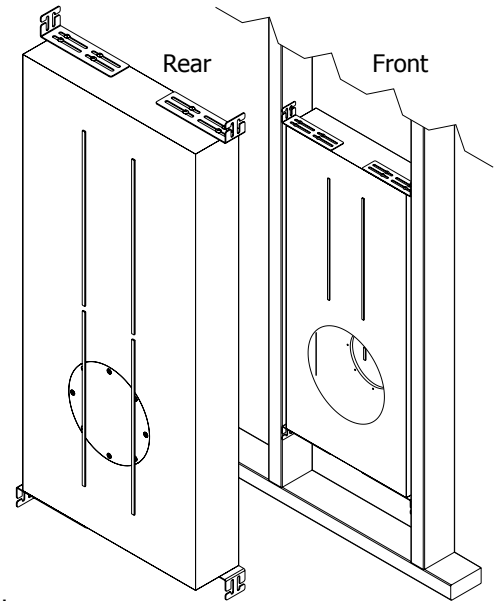

Fig. 3
8. Attach foam strips to the front and back of the enclosure by removing the protective backing from the adhesive side and pressing onto the enclosure. The exact placement is not critical but should be in the approximate regions shown in **Fig. 3**.